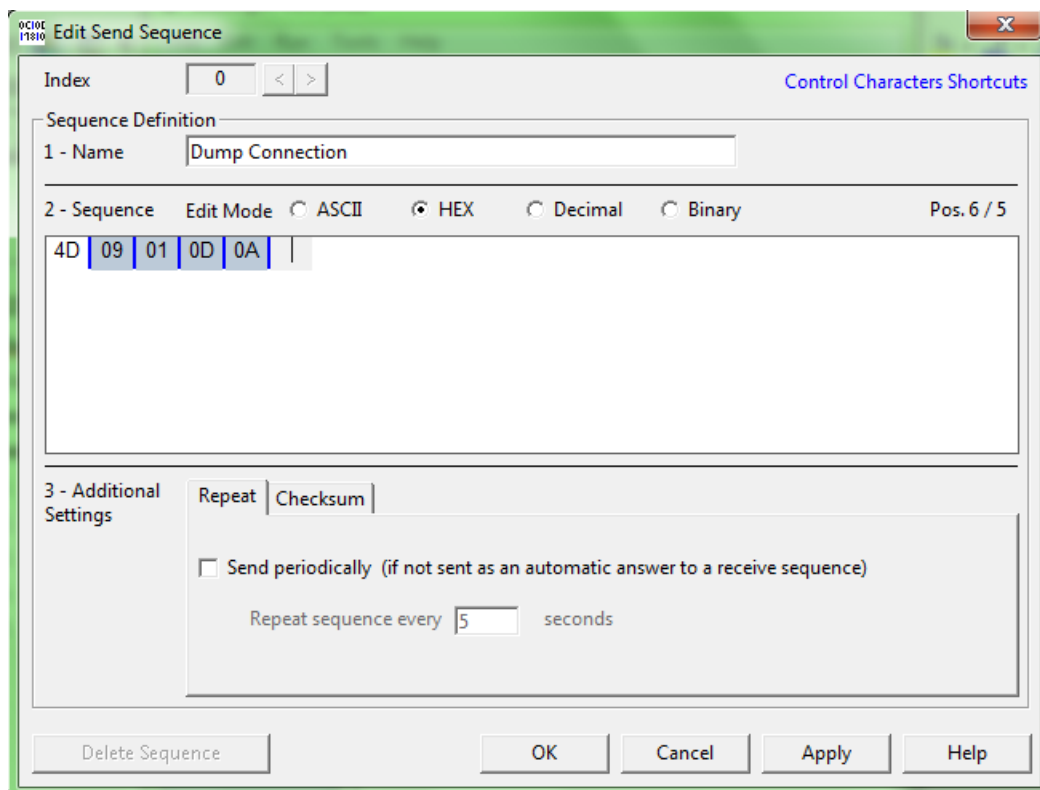

Figure 7: Adding Send Sequence in Docklight
5. Write 'Dump Connection' in Name box. Select HEX from 'Edit Mode'. Write 4D 09 01 0D 0A Hex Command in Sequence window and then click OK. [Figure 7]